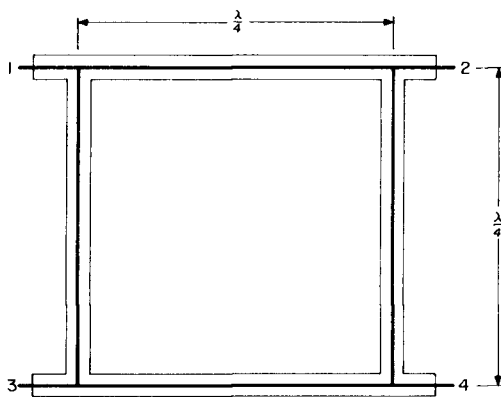

fig. 2. The branch directional coupler. This device divides power between two matched loads.
2. The branch directional coupler, **fig. 2**, which is a quadrature hybrid with some interesting applications for moonbounce work and ssb.